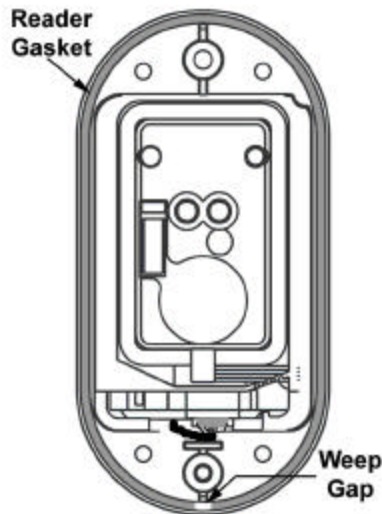

Figure 2-25 – Reader Gasket
- 2.12.4 If the Reader Gasket (Figure 2-25) is not already mounted on the Reader Base Plate, position the Reader Gasket in the outer groove of the Reader Base Plate making certain that the ends of the Reader Gasket are at the bottom of the base plate and that there is a Weep Gap.